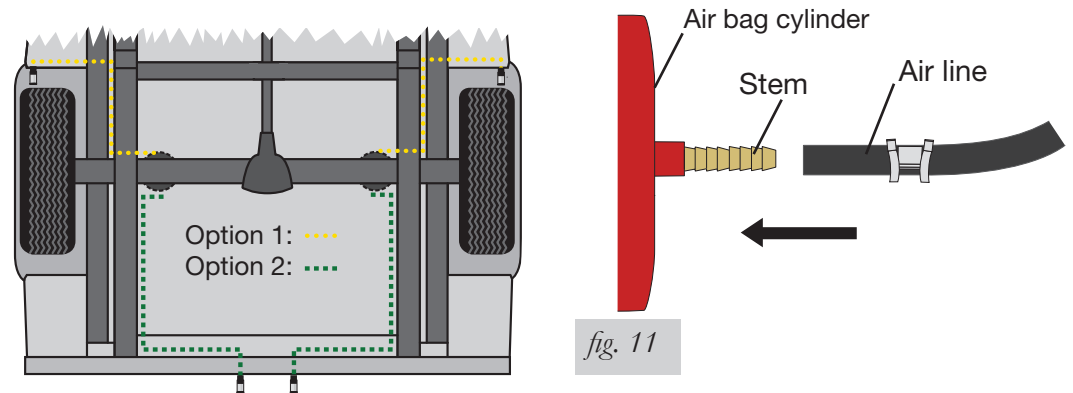

fig. 11
6. Select a location for the inflation valve in the gas cap well, the trunk, rear bumper, fender flange or behind license plate, ensuring that the valve will be protected and accessible with an air hose (Fig. 11).